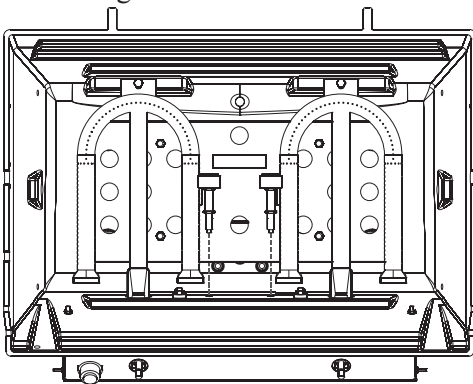

Figure 6
5. Insert collector box assemblies into holes adjacent to burners. See Figure 6.